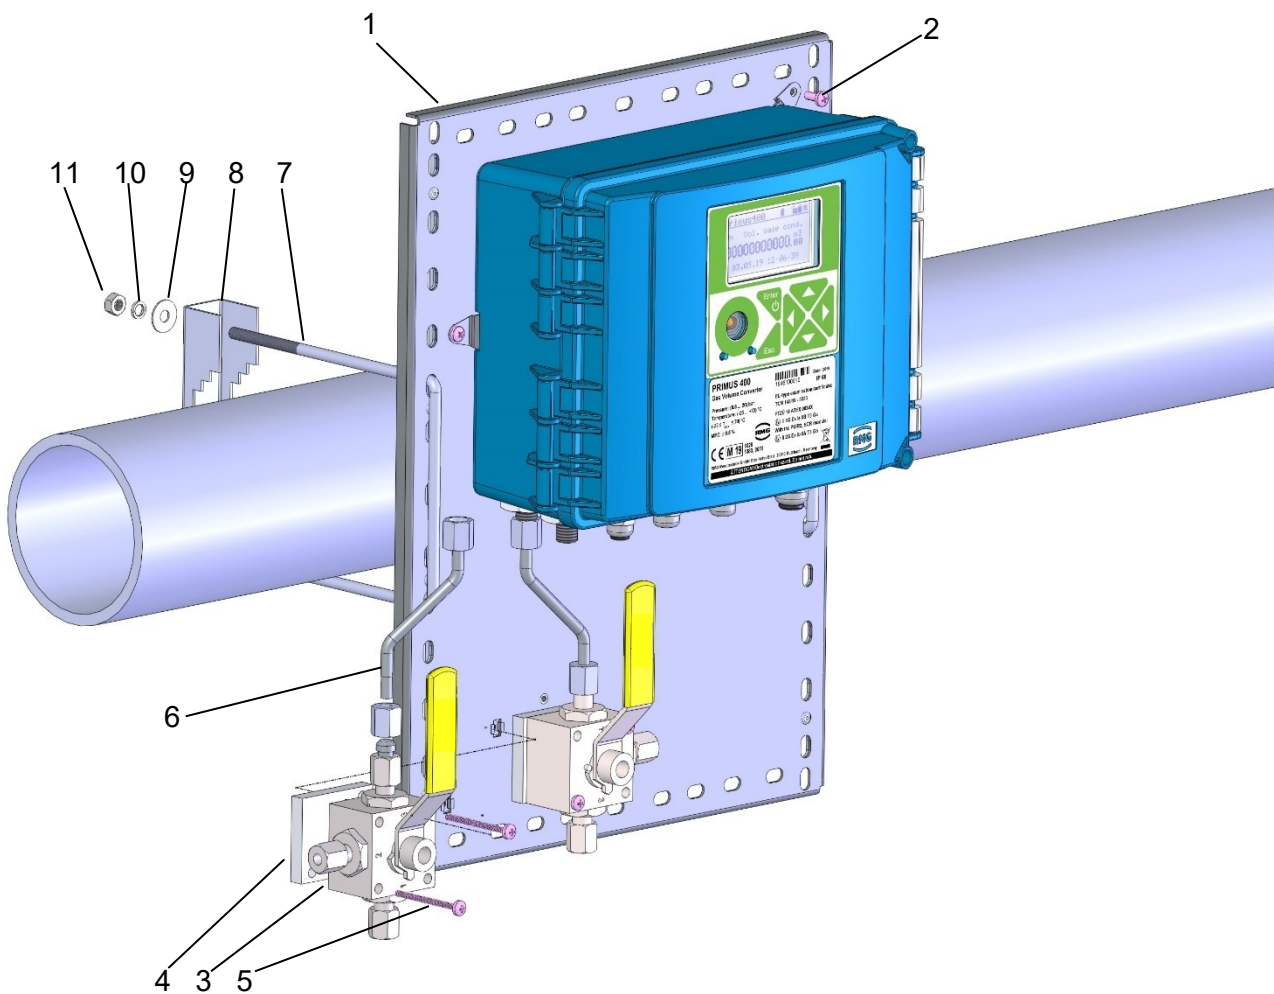

Fig. 6: Mounting the device on a pipe
Clamps (7) (see Fig. 6) with spacings corresponding to the pipe diameters are reeved through the openings in the mounting plate (1) and inserted over the pipe. Fasteners (8) are fixed onto the free ends of the clamps by means of nuts M6 (11) and washers (9) and (10) to secure the mounting plate in the desired position on the pipe. The mounting plate can be used for fixing to a pipe of diameter:
The corrector connected via the 3-way valve is shown in Fig. 6. Pressure tube 6x1 **6** with cutting ring pre-pressed on both sides is first thoroughly inserted into the pressure inlet of the device and secured with M12x1,5 ERMETO nut. The other end of the tube is attached to the 3-way valve working outlet fitted on the mounting plate and the nut is gently tightened. The last operation is tightening the nuts on both sides of the connecting pressure pipe. Excessive force must not be applied when tightening the key, otherwise the thread will be damaged.